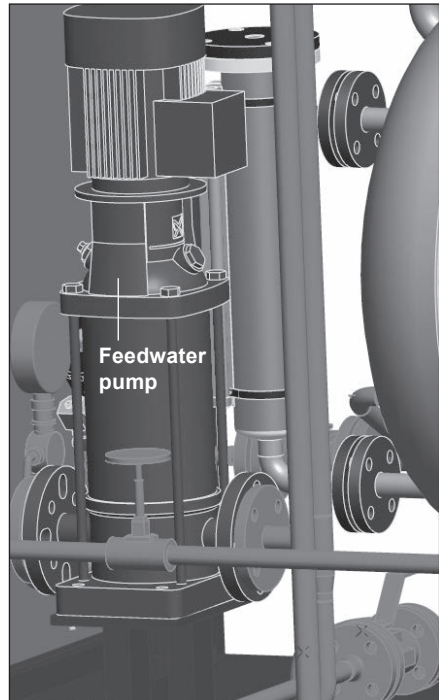

Fig. 18
5.4.8 Feedwater pump - Figure 18